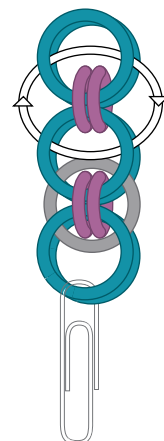
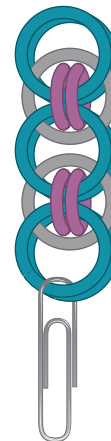

FIG. 6
FIG. 7
7. Thread and close another small jump ring around these 4 large closed jump rings (FIG. 6).
8. Pass 1 large (white) open jump ring between the 2 large closed jump rings previously added so that it surrounds the small jump rings without linking through them, as marked in FIG. 6. Close the jump ring (FIG. 7).